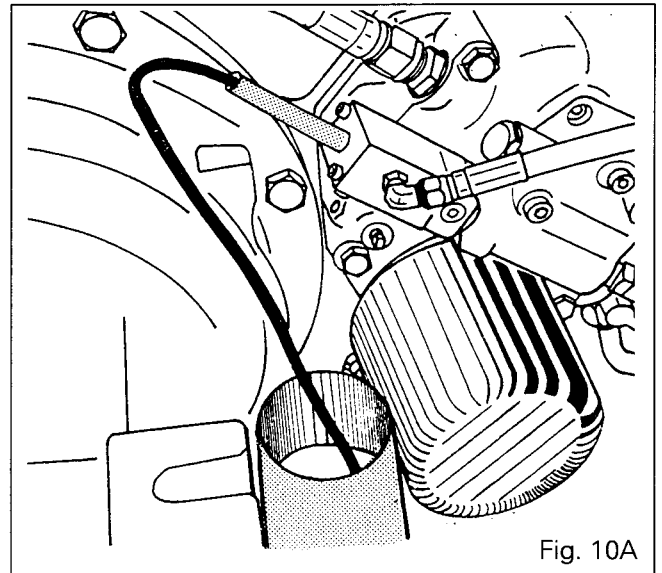

Fig. 10A
34. Connect a transparent hose (inside dia. 4 mm) onto the vent screw on the pilot head of the trailer brake valve (open centre circuit) or on the distribution block (closed centre circuit) (see Fig. 10A or 10B).
35. Immerse the end of the hose in a container partially filled with transmission oil (Fig. 10A or 10B).